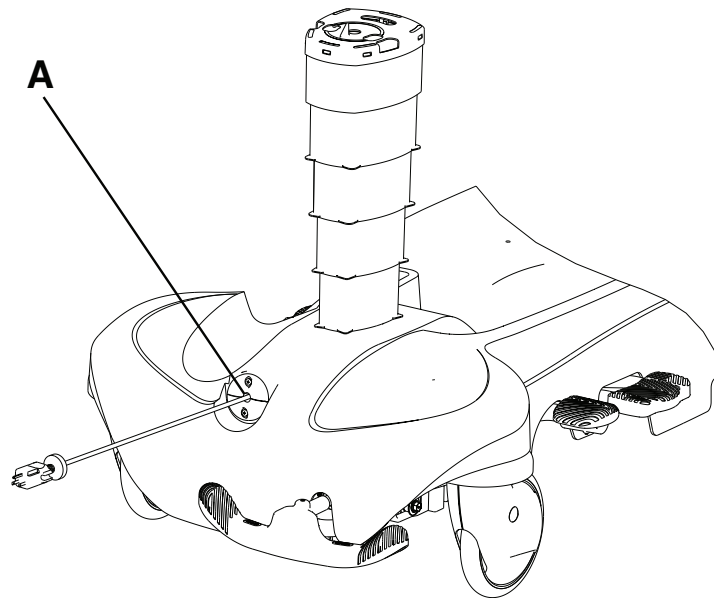

Figure 19 – Retractable cord reel
To extend the power cord, pull the power cord out from the retractable cord reel (A) to the desired length (Figure 19).